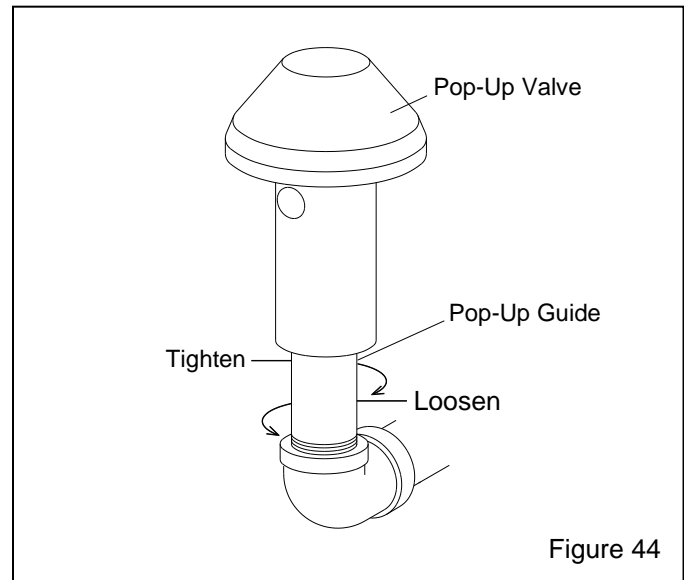

Figure 44
7.9.5 Use a short pipe wrench to unscrew the pop-up valve guide from the elbow by turning it counterclockwise, as shown in Figure 44. Remove the pop-up valve and guide from the machine.